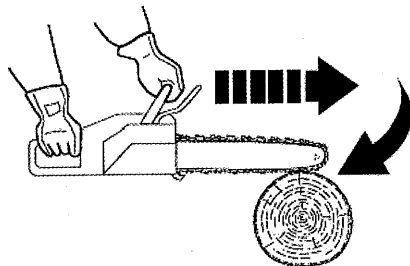

Fig. 31
1. Pinching the saw chain (7) along the bottom of the guide bar (8) may pull the product forward away from the operator ("skating") (Fig. 31).